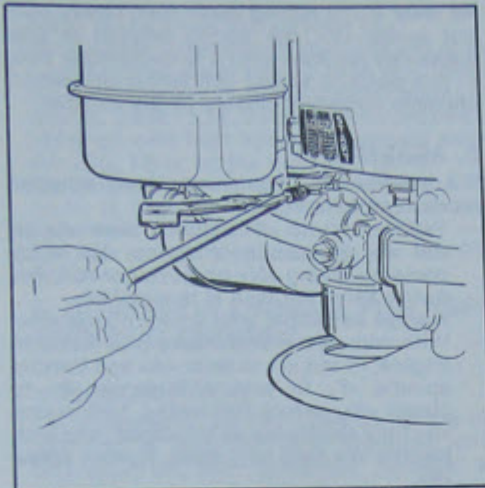

Fig. 7
- Turn the screw in an anti-clockwise position to decrease the speed (see Fig. 7).